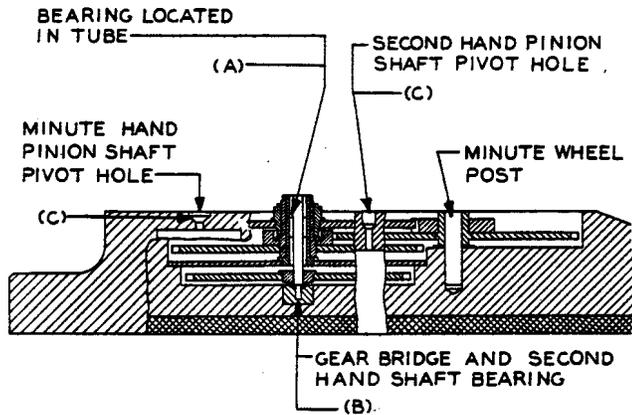

Fig. 3—Gearing in Platen Holder
Bearing Located in Tube—Fig. 3(A)
Gear Bridge and Second-Hand Shaft Bearing—Fig. 3(B)
Pivot Holes for Minute- and Second-Hand Pinion Shafts—Fig. 3(C)